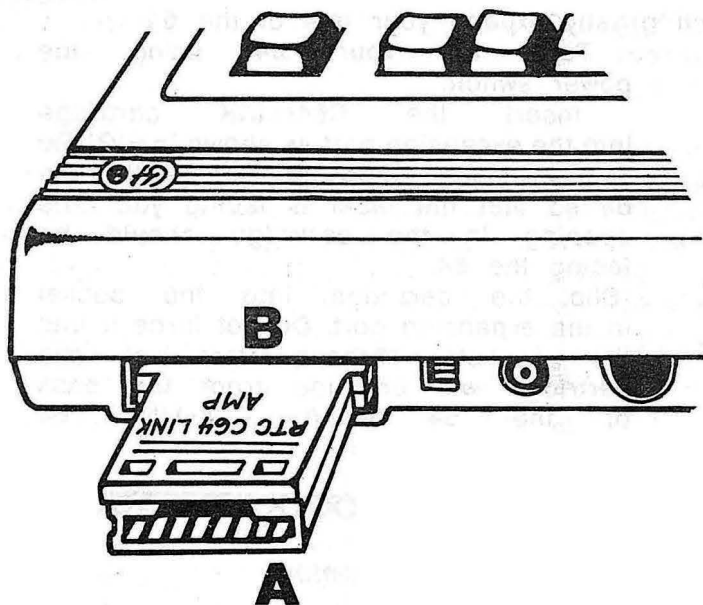

FIGURE 1 Installing the C64-LINK
- b. Insert the C64-LINK cartridge into the expansion port as shown in FIGURE 1. Line the cartridge up with the 64 so that the label is facing you. The opening in the cartridge should be facing the 64.